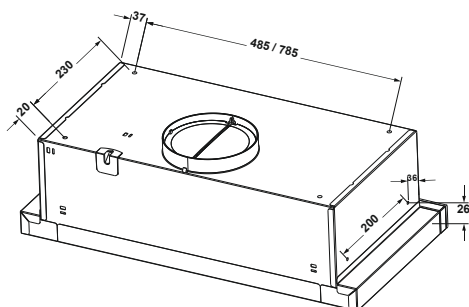
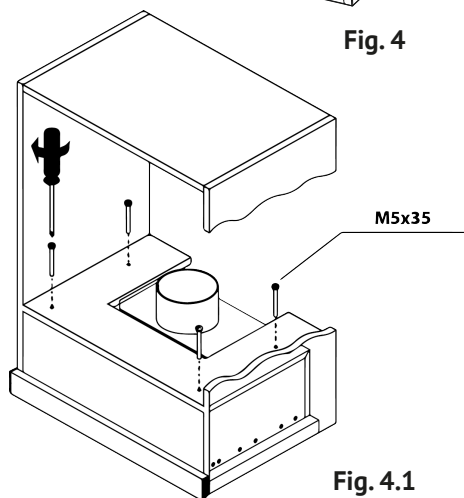

Fig. 4
Fig. 4.1
6.5 To install the cooker hood in the kitchen closet, make 4 holes of 6-7 mm in diameter in the lower shelf of the closet according to fig. 4. Fasten the cooker hood with 4 screws M5x3 (Fig. 4.1).
6.6 Connect the bubbler to the turbine outlet (with pipe adapter of bubbler Ø150x120mm). Remove the other end of the bubbler into the ventilation shaft (Fig. 4 / 4.1).